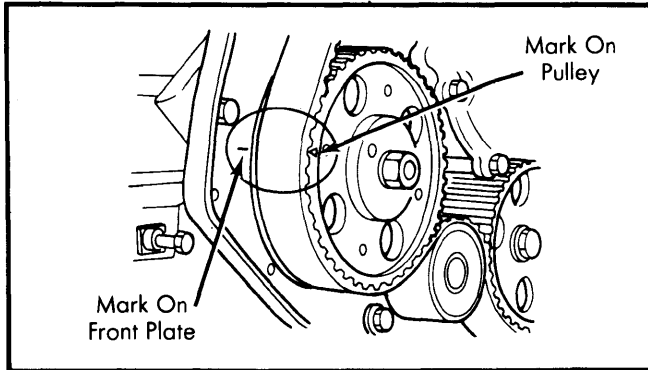

Fig. 6 I-Mark Timing Belt Pulley Alignment
2) Remove 10 bolts retaining upper dust cover, then remove dust cover and by-pass hose. Turn engine until No. 1 cylinder is at TDC. Align mark on pump pulley with mark on front plate. See Fig. 6. Install a bolt (6mm x 1.25) through hole in injection pump pulley into threaded hole in pulley housing.
I-Mark — 1) Check that notch in pump flange is in line with notched line on front plate. Turn engine to position No. 1 cylinder at TDC. Remove injection pump pulley cover (upper front cover) and see that timing marks are aligned. See Fig. 6.